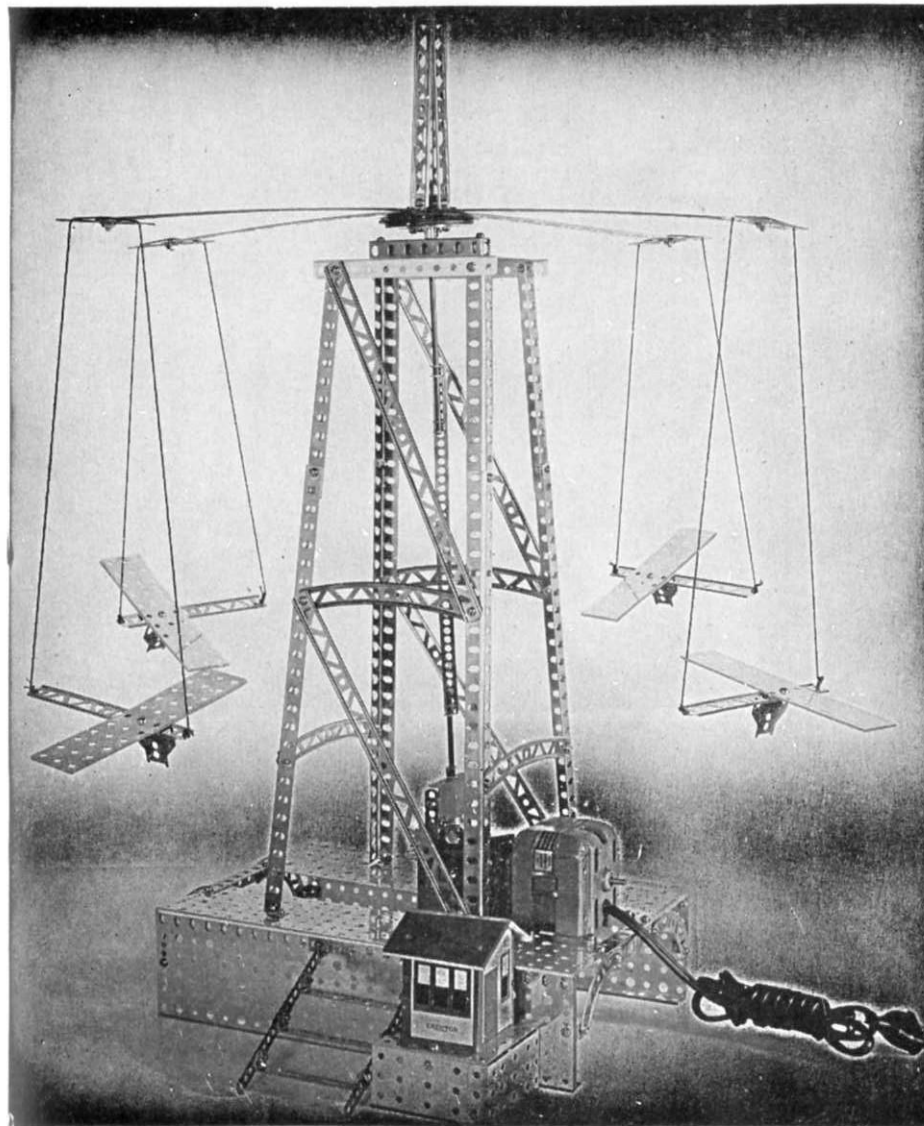
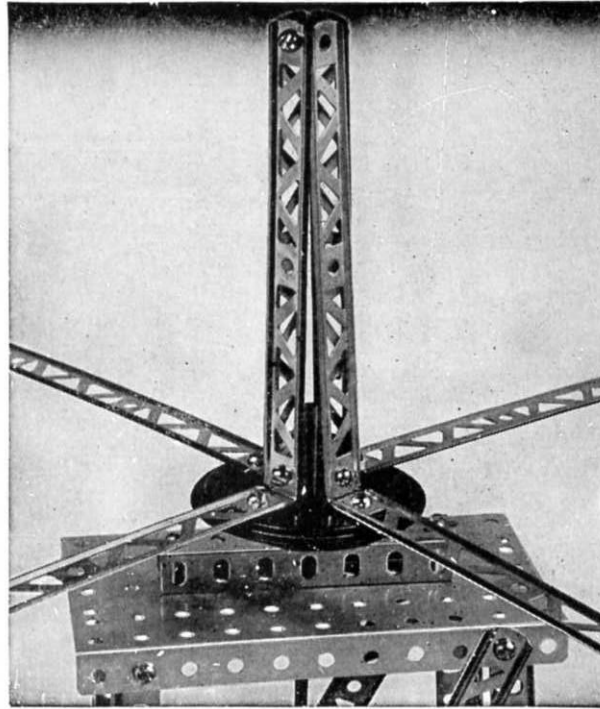

FIGURE 1
FIGURE 5
The base of the tower is shown in Figures 1 and 2. Fastened to the base plates with (CH) right angles are 4 (DP) 12" angle girders. On the top of these angle girders are fastened 4 (BE) 6" angle girders, and then on the top of the four angle girder assemblies is fastened an (MD) 2-1/2" x 5" base plate. To the top of this base plate are fastened 2 (MO) 3" angle girders which form a (U) shape with the open part of the (U) down on the base plate.
The tower is braced with (E) 5" curved girders and (C) 10" girders as shown in Figures 1, 2, and 3.
The revolving top is shown in detail in Figure 5. On a (BT) turret plate are fastened 4 (CH) right angles. To the vertical leg of the right angles are fastened 4 (B) 5" girders which are brought to the top to form a square. When the (CH) right angles are fastened to the turret plate, 4 (C) 10" girders are also fastened, each one at right angles to each other. On the ends of each 10" girder are fastened (A) 2-1/2" girders — see Figure 1. From these short girders are suspended the strings on which are hung the airplanes. Each airplane is made with a (B) 5" girder, a (MF) 1" x 5" base plate, and a P79 car truck as shown in Figure 1.